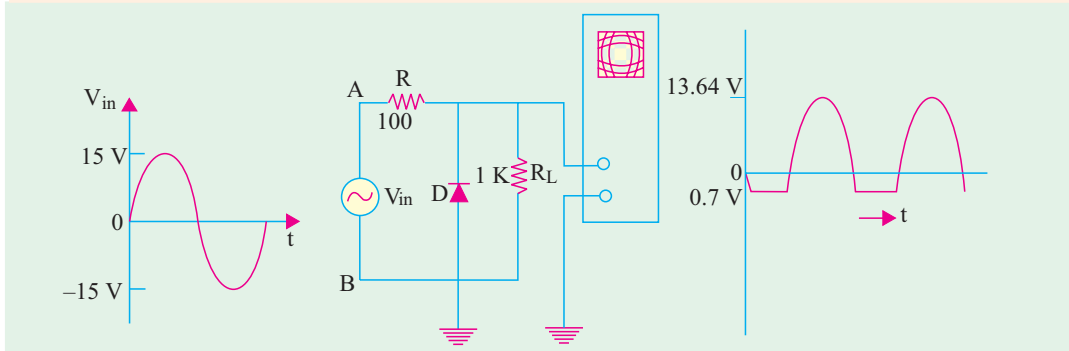

Fig. 52.33
**Example 52.20.** What would be the output waveform displayed by the oscilloscope in Fig. 52.33? The silicon diode has a barrier voltage of 0.7 V.
Hence, the output voltage as displayed by the oscilloscope would be as shown in Fig. 52.33.